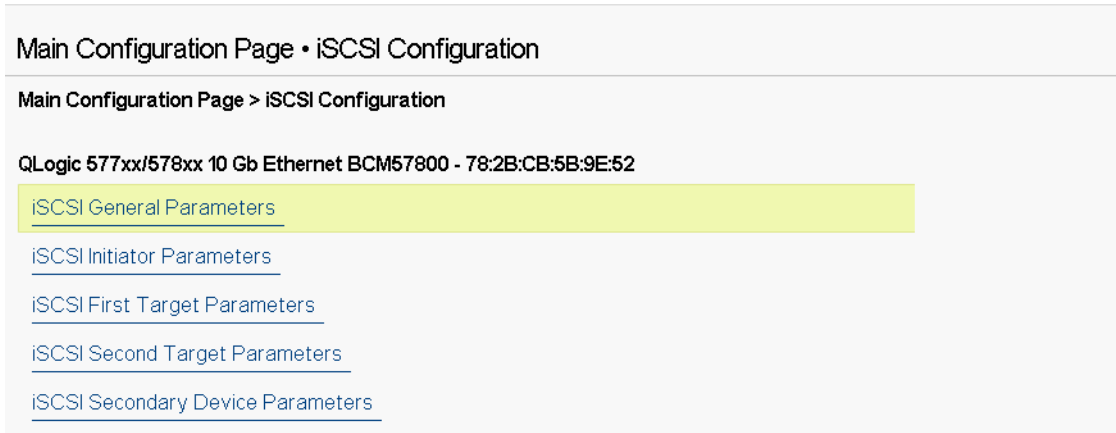

Figure 11-2. UEFI, iSCSI Configuration
2. Configure the iSCSI boot software for either static or dynamic configuration in the CCM, UEFI (see Figure 11-2), QCC GUI, or QCS CLI.